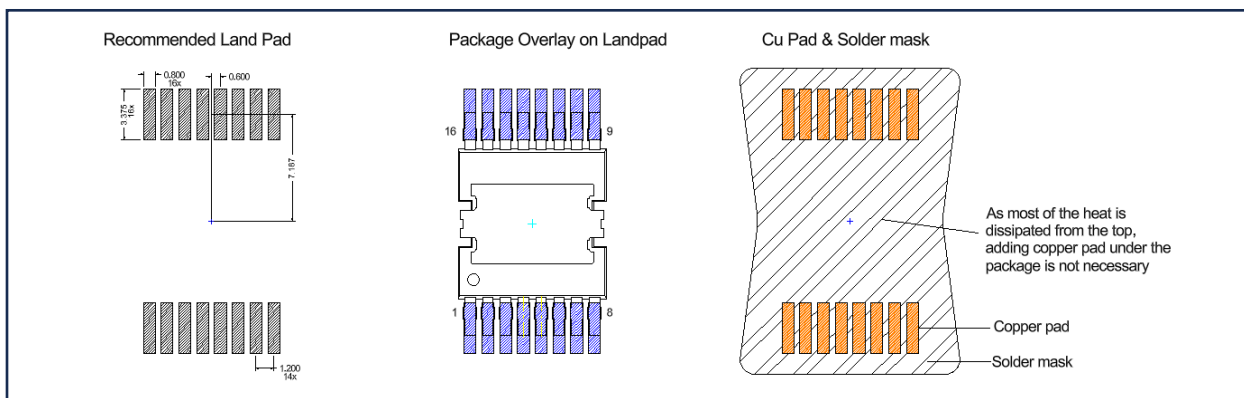
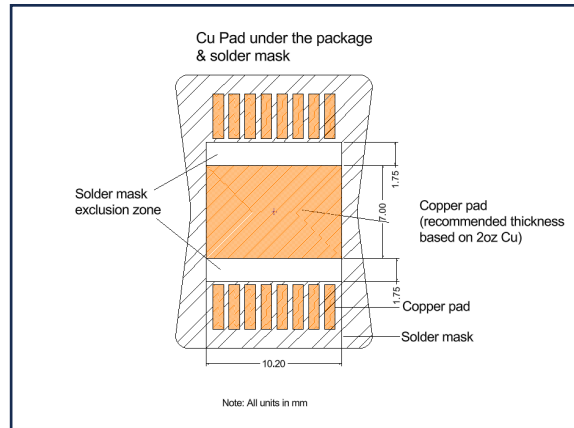

Fig. 4: Recommended Land Pad Layout (without Cu pad under the package)
Fig 5: Recommended Land Pad Layout with Cu pad under the package
- System-level thermal design for top-cooled packages must observe co-planarity and electrical isolation requirements when multiple power devices are cooled by the same heatsink (Cold Plate). Since the majority of heat is transferred through the top-side thermal pad, placing a Cu pad below the package is optional unless used as added mechanical support. Caution has to be taken when adding a Cu pad under the package as this will add to the stand-off variation of the package that may affect soldering quality. Fig. 4 shows the pad layout without the Cu pad under the package while Fig. 5 shows the layout with Cu pad under the package. Note however that the maximum allowable Cu pad thickness is based on a 2oz Cu board design.